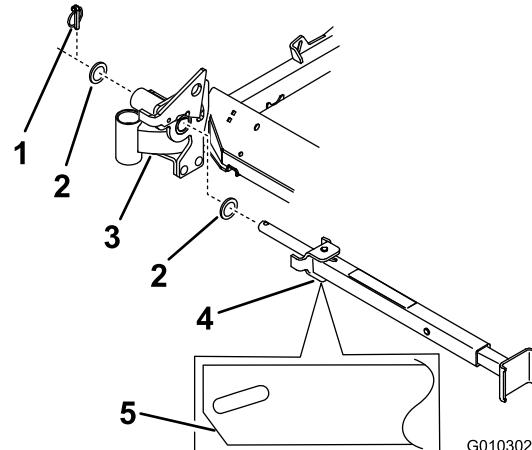

Figure 6
3. Place a thrust washer onto the pivot pin (Figure 6).
Note: When inserting the pivot pin, make sure the position of slot in tube is as shown in and make sure the chamfer is facing forward (Figure 6).
5. Place a thrust washer onto the pivot pin and secure it with a lynch pin (Figure 6).